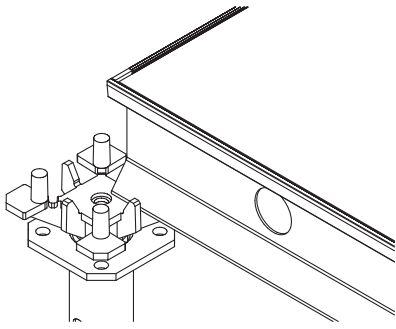

Fig. 14.7 – Prop - shoring head located where four boards contact each other
1. Position the ceiling props fitted with the heads with the head covers in (A0070000) the board corners (A0070005). Before the assembly of each prop you should pre-determine its basic height by using the G-hook lock inserted in the appropriate system hole of the upper and mobile pipe part. To precisely adjust the prop height you should use the nut which should be appropriately rotated. Then to protect the props against the possible falling you should use the tripods. The recommended ratio of the tripods installed to the number of props is 1:3. The props fitted with the head and the head cover (A0070005) should be used in the corners of the facilities erected. Figures 14.7, 14.8 and 14.9 show various application concepts.